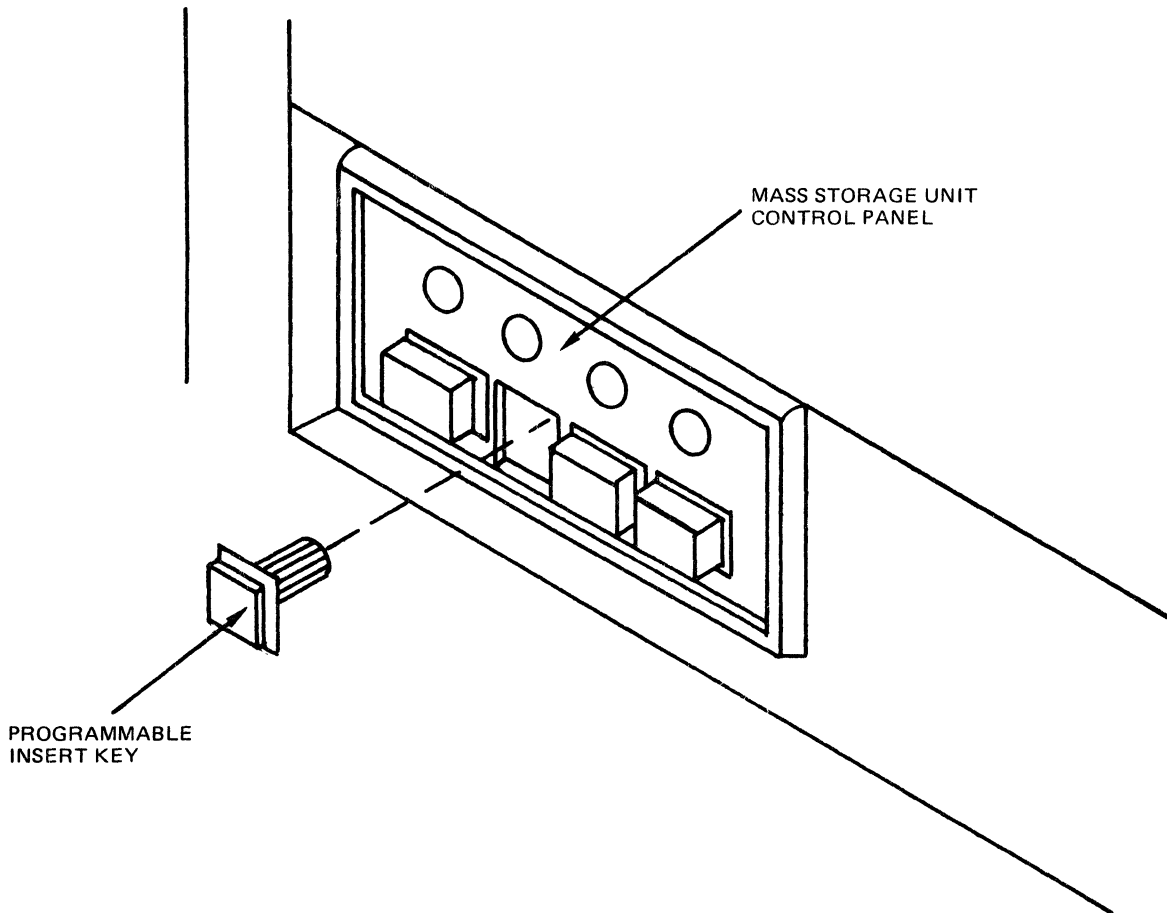

Figure 2-13 Installation of Programmable Insert Key
2. Select desired programmable insert key for each unit and insert key into proper unit's control panel as shown in Figure 2-13. Control panel for each mass storage unit is located on front of shroud, just below edge of pack access cover.